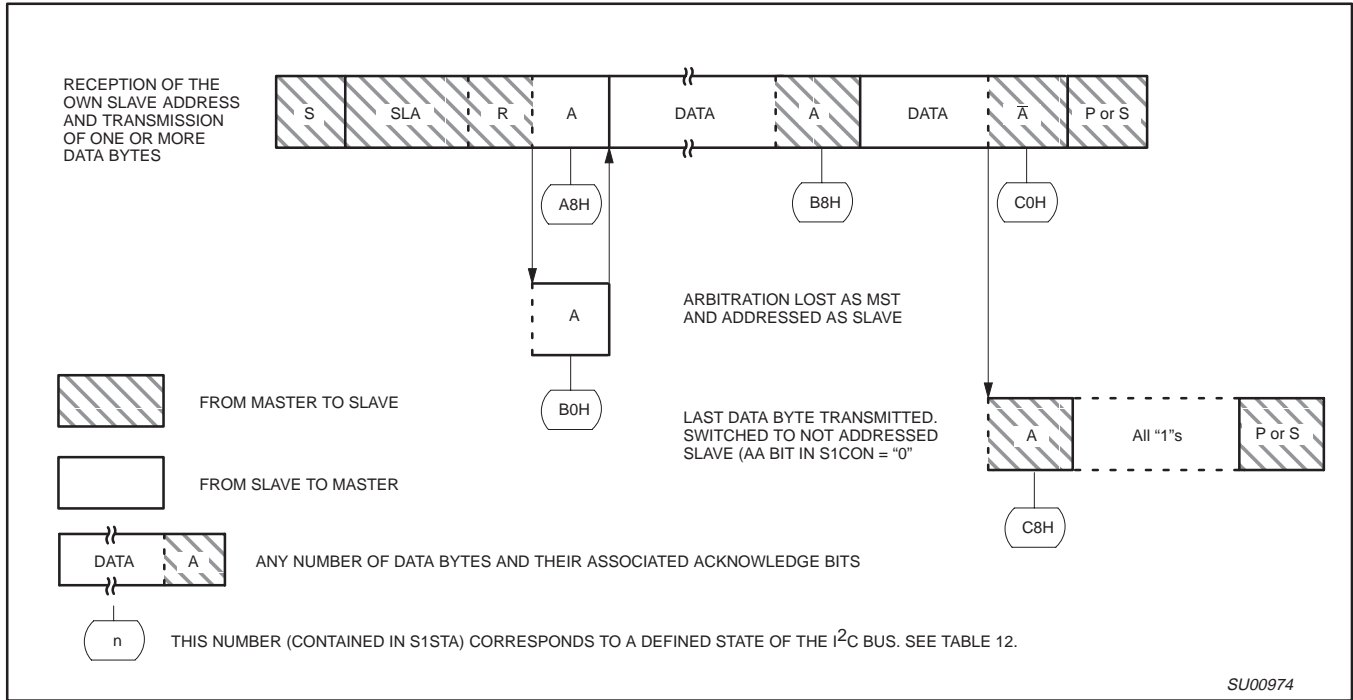

Figure 25. Format and States of the Slave Transmitter Mode
Slave Transmitter Mode: In the slave transmitter mode, a number of data bytes are transmitted to a master receiver (see Figure 25). Data transfer is initialized as in the slave receiver mode. When S1ADR and S1CON have been initialized, SIO1 waits until it is addressed by its own slave address followed by the data direction bit which must be “1” (R) for SIO1 to operate in the slave transmitter mode. After its own slave address and the R bit have been received, the serial interrupt flag (SI) is set and a valid status code can be read from S1STA. This status code is used to vector to an interrupt service routine, and the appropriate action to be taken for each of these status codes is detailed in Table 12. The slave transmitter mode may also be entered if arbitration is lost while SIO1 is in the master mode (see state B0H).